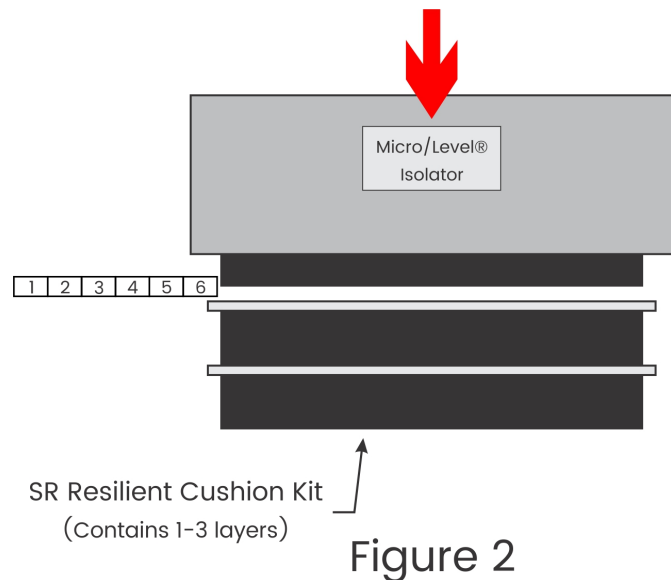

Figure 2
14. Lift the Micro/Level Isolator and center it on the SR Resilient Cushion Kit using a ruler or scale. See Figure 2.